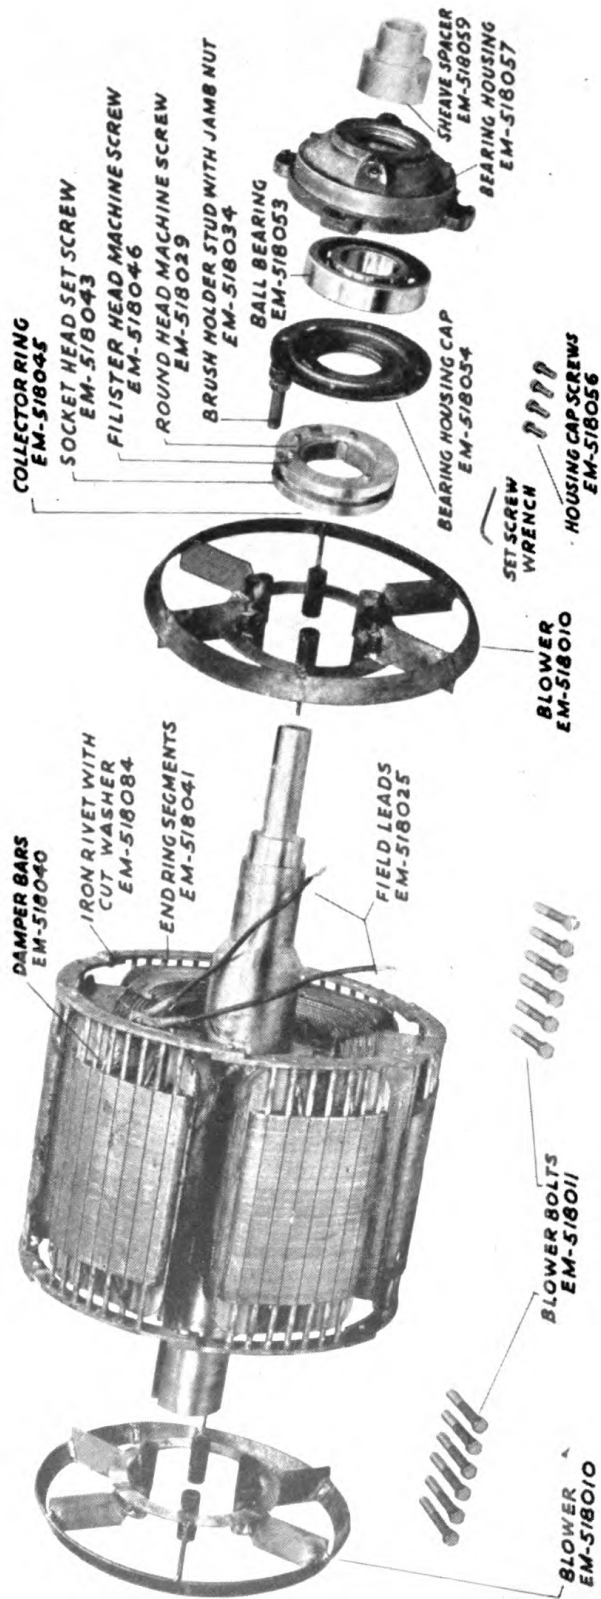

FIG. 9—Generator Rotor—Exploded View
- Figure 9 Generator rotor—exploded view.